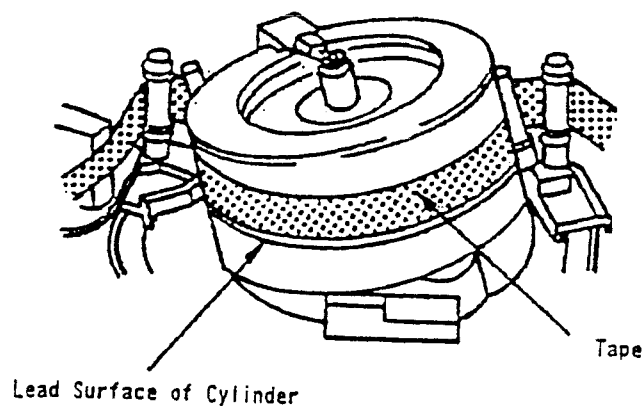

Fig. 2-2
4. Observe the tape transport at the lead surface of the cylinder during the PLAY mode, and confirm that the tape runs smoothly along the lead surface of the cylinder without slipping downward or upward. (Refer to Fig. 2-2.)